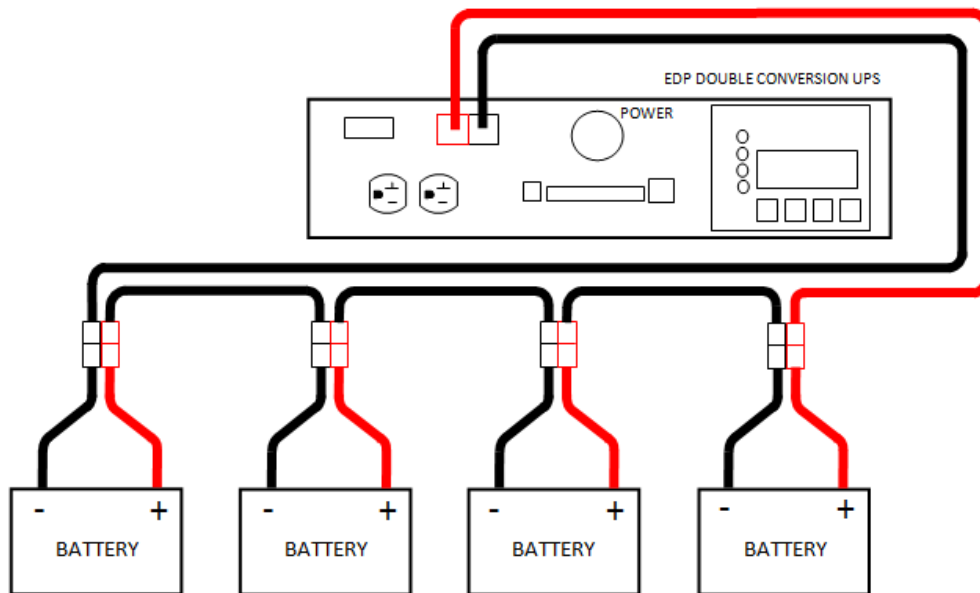

Fig. 4-5: 2.0kVA EDP model, 48VDC Battery Harness Kit
3. The 2.0kVA system uses a 48VDC battery string. Refer to figure 4-5 when installing the battery harness for this system. **NOTE:** Follow diagram as pictured or system damage may occur.